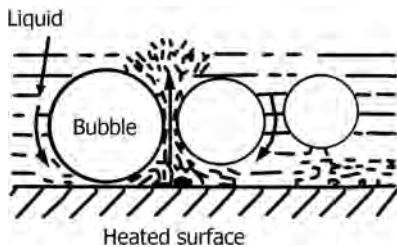

FIGURE 9.12 Bubble agitation.
- *Bubble Agitation*: The systematic pumping motion of the growing and departing bubbles agitates the liquid, pushing it back and forth across the heater surface, which in effect transforms the otherwise natural convection process into a localized forced convection process. Sensible heat is transported away in the form of superheated liquid and depends on the intensity of the boiling process. Figure 9.12 illustrates bubble agitation process.